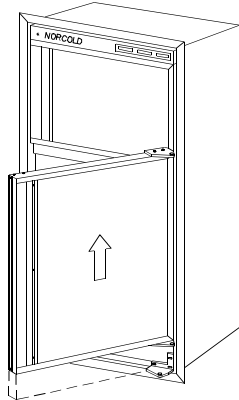

Figure 14
- Remove the lower door by opening it slightly and pulling the top of the door away from the refrigerator. Allow enough room so the door can be lifted up and off of the bottom hinge pin shoulder (See Figure 14). Be sure to save the hinge plates along with the spacer used in the middle hinge bracket, for reassembly later. (See Figures 19A, 19B, and 19C)